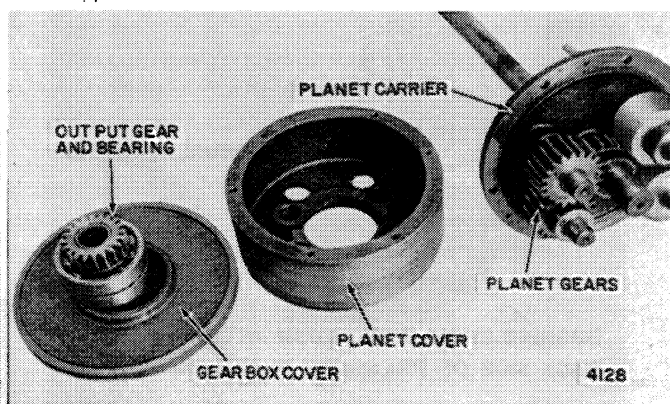

FIGURE 12
4. The planet cover and carrier assembly can now be tapped apart and the output gear and carrier bearing assembly can be removed from the gear box cover and the planet carrier cover, Figure 12.
5. Inspect the carrier pins, input sprocket, the teeth and the bearing sleeves in the planet gears for wear, Figures 12 and 13, and replace the carrier assembly or the bearings in the gears if they show wear. Note how the planet gears are installed on the pins. Two diagonally opposite gears have the shoulder toward the planet carrier and the other two have the shoulder away from the carrier.